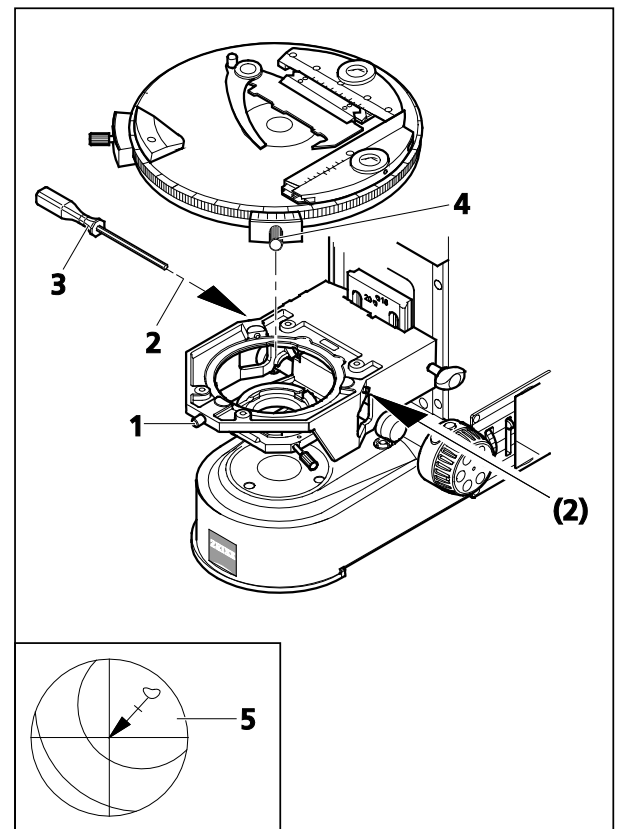

Fig. 68 Centering rotary stage Pol
All stages are factory-precentered, i.e. when the stage is rotated, the set specimen detail will remain in the center of the image. If the detail moves out of the center of the field of view (Fig. 68/5) while rotating the stage, the stage should be recentered by following this procedure:
- Loosen the stage ratchet (Fig. 68/4) or stage clamp (on rotary stage Pol with clamping device) and the screw cap of the stage carrier (Fig. 68/1).
- Rotate the stage to determine the maximum specimen deflection (Fig. 68/5, tip of arrow) to the eyepiece reticles.
- Turn each of the two centering screws on the stage carrier (Fig. 68/2) using an SW 1.5 Allen key (Fig. 68/3) to move the specimen detail by half of the arrow length towards the reticle center. Check whether the specimen detail moves when the stage is rotated again; repeat the procedure, if required.
- When centering is finished, tighten screw cap (Fig. 68/1) again.